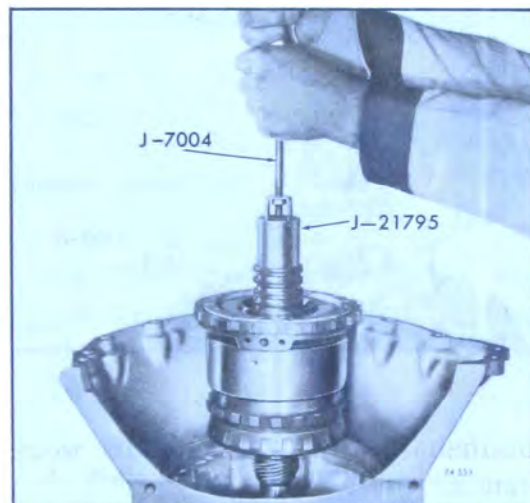

Figure 74-553
15. Remove entire gear unit assembly by lifting with J-21795 and J-7004 Slide Hammer. See Figure 74-553.